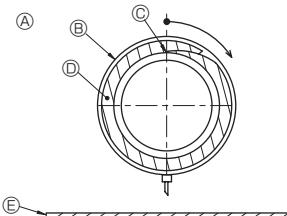

Fig. 4-4
5. Insulate the drain port and drain socket with insulating material ⑨, then secure the material with a band. (Both insulating material and band are supplied with the unit.) (Fig. 4-4)
#### [Fig. 4-4]